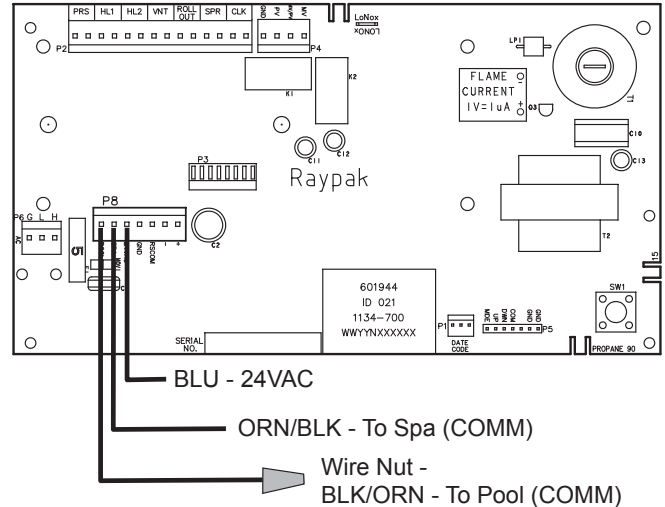

Figure 54. 2-Wire Remote Harness Installation on the P8 Connector of the Board
7. Install the “7-Pin Remote Interface Harness” to the P8 connector and turn power “ON” to the heater. See **Figure 54**.